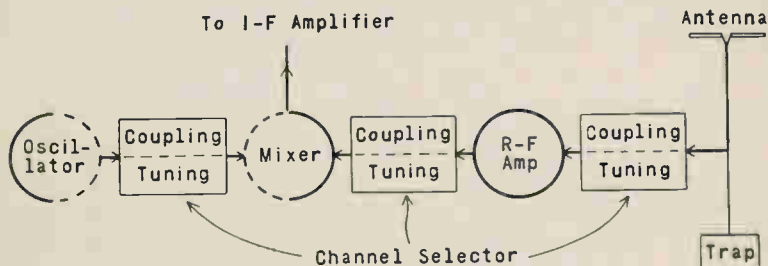
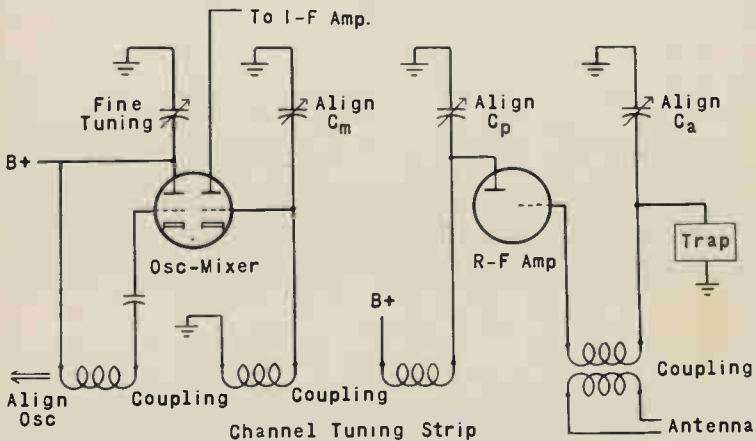
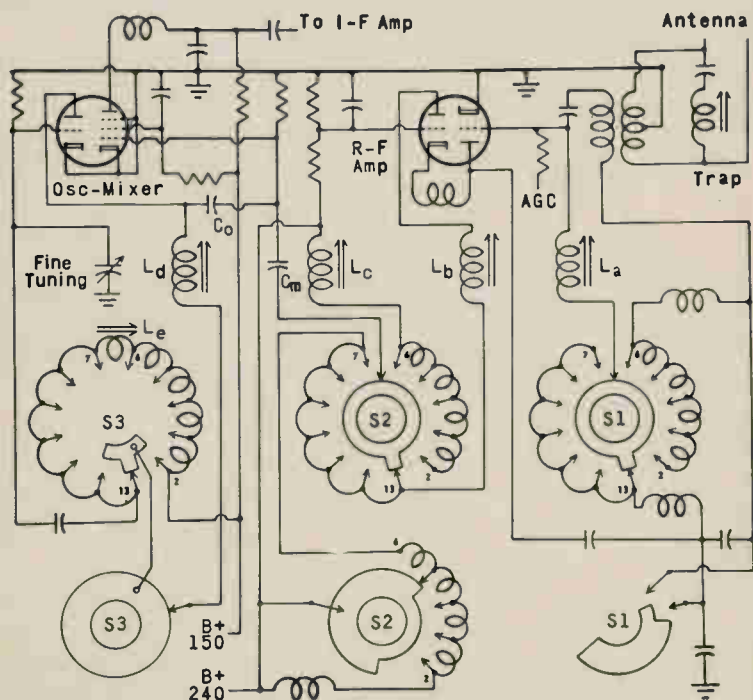

Fig. 2-1. Every tuner section contains these subdivisions in one form or another.
Fig. 2-3. Elements for channel selection and for alignment in a turret tuner.
Fig. 2-4. Circuit connections for a simple type of incremental or switch type tuner.
The tuner group or section includes the subdivisions shown by Fig. 2-1. There are couplings for signal transfer between antenna and r-f amplifier, between r-f amplifier and mixer, and between oscillator and mixer. Coupling from oscillator to mixer often is referred to as oscillator injection; it may be a small capacitor, sometimes adjustable.
Couplings and service adjustments for the turret tuner are shown in Fig. 2-3 without connections from the low-voltage power supply to plates, grids and cathodes. This diagram includes components in which we are most interested during trouble shooting other than checks for voltages and resistances, and helps bring out the fact that any tuner consists essentially of the elements in Fig. 2-1.
Fig. 2-4 shows principal components and connections in a rather simple type of incremental or switch type tuner. Channel tuning is by means of switching more or less inductance into the antenna or r-f coupling by means of rotary switch *S1*, into the r-f to mixer coupling by switch *S2*, and for oscillator tuning by switch *S3*. The diagram shows front and back connections and inductors for each switch wafer.
If we omit from the fairly complete diagram of Fig. 2-4 all B-voltage and biasing connections to plates, screens, grids and cathodes we have the simplified diagram of Fig. 2:5. Considering only the functions of the elements in this latter diagram, and neglecting details of circuit connections, we have Fig. 2-1. Again we find that any tuner consists basically of the elements shown in Fig. 2-1 so far as principles of trouble location are concerned.
**4.** Realign for less bandwidth and greater gain. In Fig. 2-2 this would require adjustment of  $C_a$ ,  $C_p$  and  $C_m$ , and in Fig. 2-4 of  $L_a$ ,  $L_b$  and  $L_c$ . Bring the video carrier as high on the new response as still allows adequate sound. The sound carrier goes down on one side of an r-f response as the video carrier goes up on the opposite side.